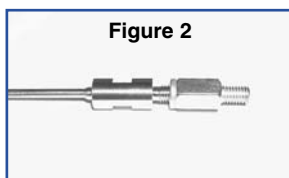

Figure 2
7. Thread the EZ No-Vent™ connector onto the transfer line, then tighten the connector onto the MS source. First tighten only finger-tight, then tighten an additional  $\frac{1}{4}$ -turn (Figure 2).